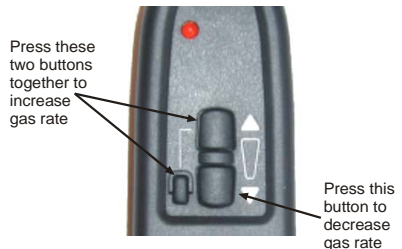

FIGURE 7 - Handset Operation
4. Using the HANDSET, (as shown in **FIGURE 7**) By pressing the top and small buttons together (to increase the gas rate) and the lower button only (to decrease the gas rate) the valve can be manipulated to select the desired gas rate between maximum and minimum. By pressing the larger buttons in short bursts you will be able to adjust the gas rate in small steps.